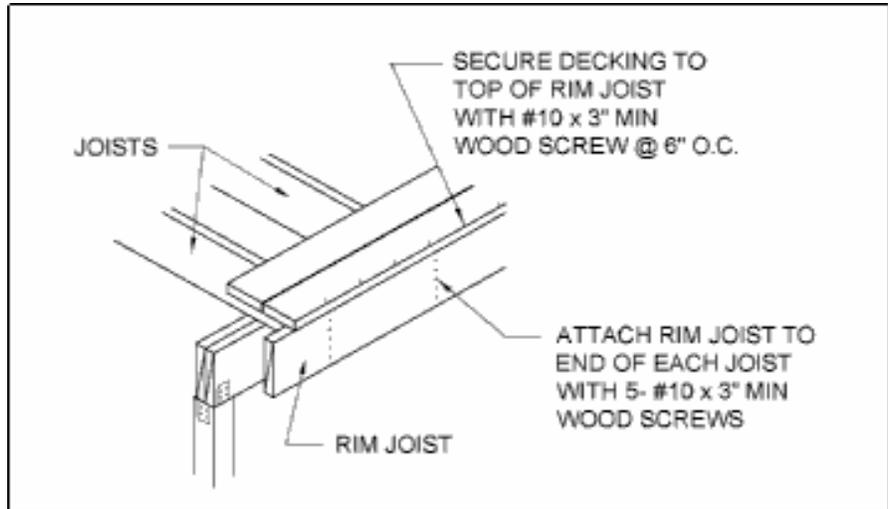

Figure 18 - Rim Joist Connection
**Requirements:** Attach a continuous rim joist to the ends of joists as shown in Figure 18. Please note that the rim joists are required at both ends of joists associated with free-standing decks. Minimum rim joist dimensions shall be equal to the dimensions of the joist.